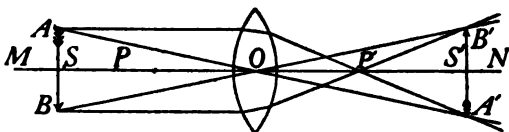

FIG. 383.—Construction of a real image by a convex lens.
387. The Construction of Diagrams to Represent the Formation of Images by Lenses.—Just as the earth has an axis at right angles to its equator to which are referred positions and distances, so a lens has a *principal axis* at right angles to its greatest diameter and along this axis are certain definite positions as shown in Fig. 383. Let
(A) If a luminous body is at a *great distance* at the left, its light is brought to a *focus* at P , or its *image is formed* at P . (B) As the *object approaches* the lens the *image gradually recedes* until the object and image are at S and S' , *equally distant from O and of equal size* (as in Fig. 383). The object and image are now said to be at the *secondary foci* of the lens. (C) As the *object moves from S to P* the image recedes, rapidly increasing in size until (D) when the object is at P the rays become parallel and no image